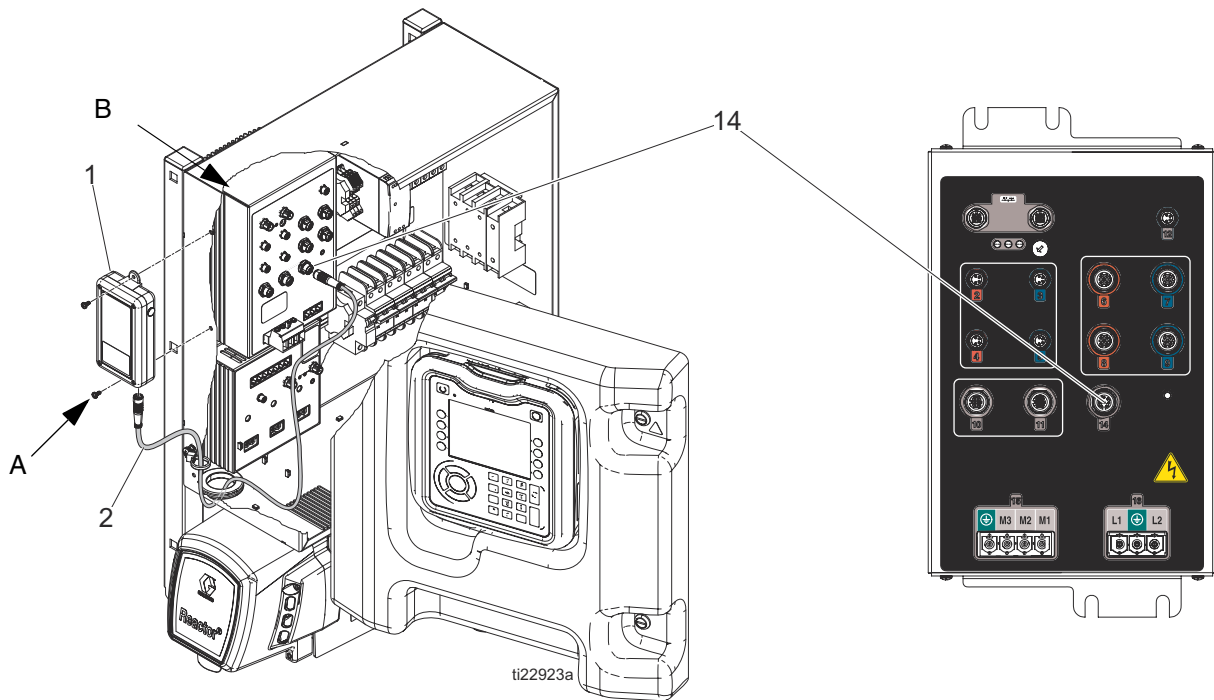

FIG. 1: Install Cellular Module
1. Use two bolts (A) to secure cellular module (1) to bracket. See FIG. 1.
2. Connect 4-pin end of cable (2) to cellular module (1) connector.
3. Route cellular module cable (2) through wire tie (3) to MCM (B). Secure with wire ties (4) as needed.
4. Connect other end of cellular module cable (2) to MCM (B) connector 14.